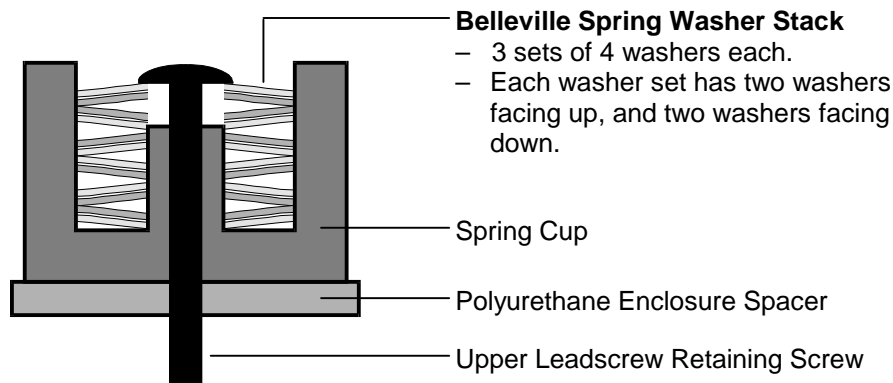

Figure 7-15 The Spring Cup Assembly and Enclosure Spacer
Refer to Figure 7-15 for the remaining steps of this procedure.
- c) Repeat step **b**) two more times, until the spring washer stack looks like the one shown in Figure 7-15.